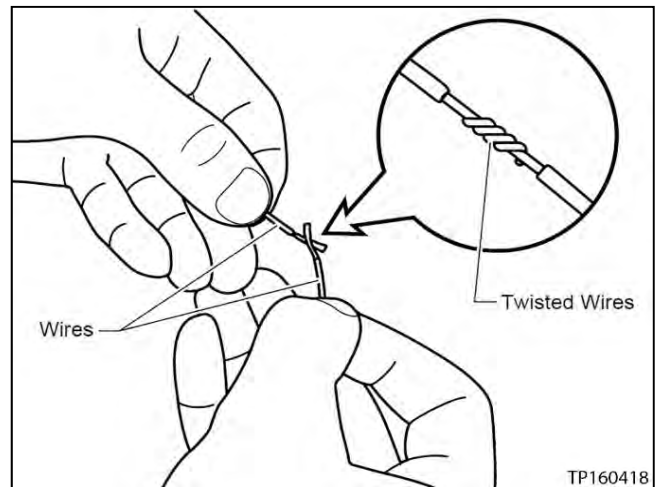

Figure 33
39. Twist together the pink wire of the jumper harness with the remaining pink wire stripped in step 36. (See Figures 33 and 34.)